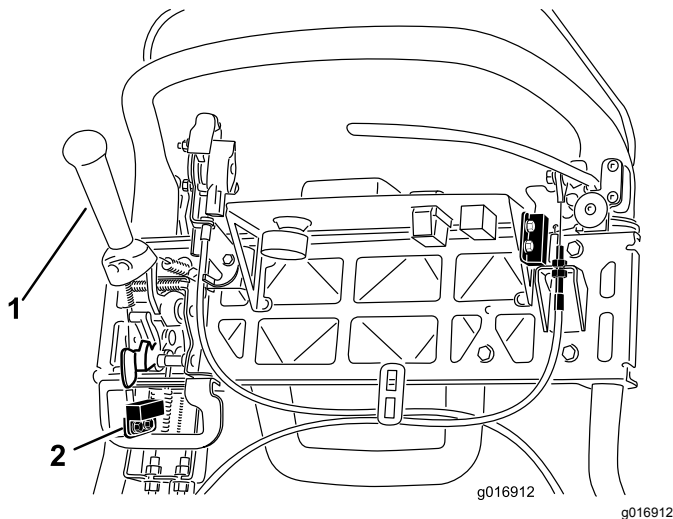

Figure 41
4. Loosen the interlock switch mounting fasteners (Figure 41).
5. Place a 1.6 mm (0.062 inch) thick shim between the traction lever and the interlock switch (Figure 41).